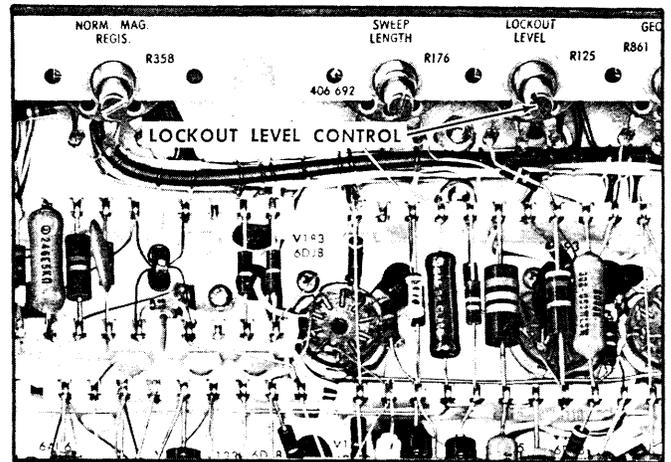

Fig. 6-17. LOCKOUT LEVEL control location.
- e. Adjust the Lockout Level R125 (See Fig. 6-17) for a 10 to 11 volt difference between the display reference with the HORIZONTAL DISPLAY switch in the A position and the display reference with the switch in the 'A' SINGLE SWEEP position.